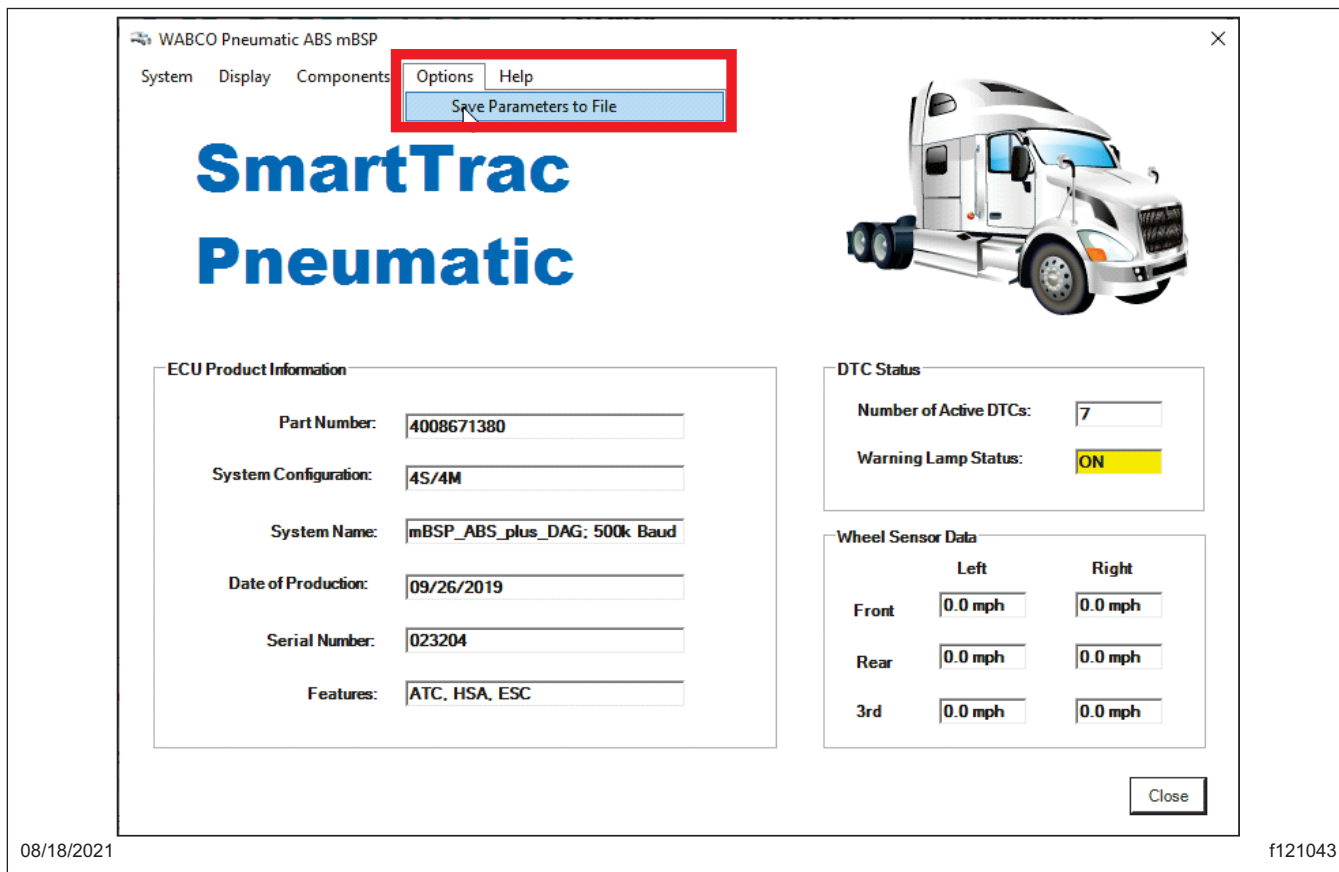

Fig. 11, Choosing the Install Location
20. Go to the 'Option' menu and select 'Save Parameters to File.' See Fig. 11.